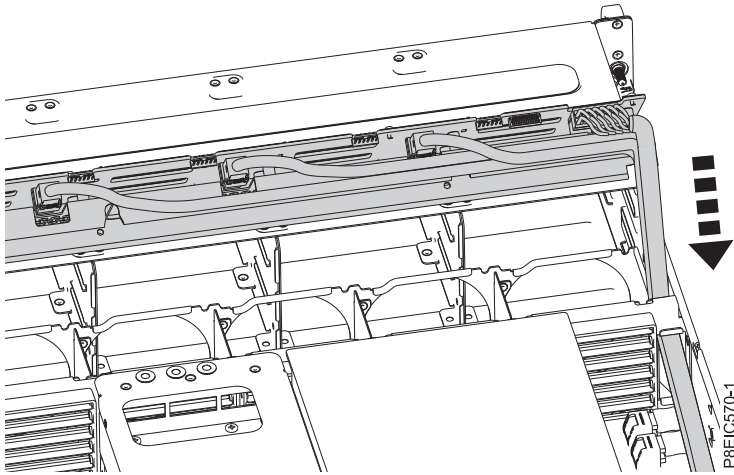

Figure 29. Installing the drive cables
3. Carefully pass the fan signal cable, drive power cable, and drive signal cables through the chassis to install them, as shown in Figure 29.